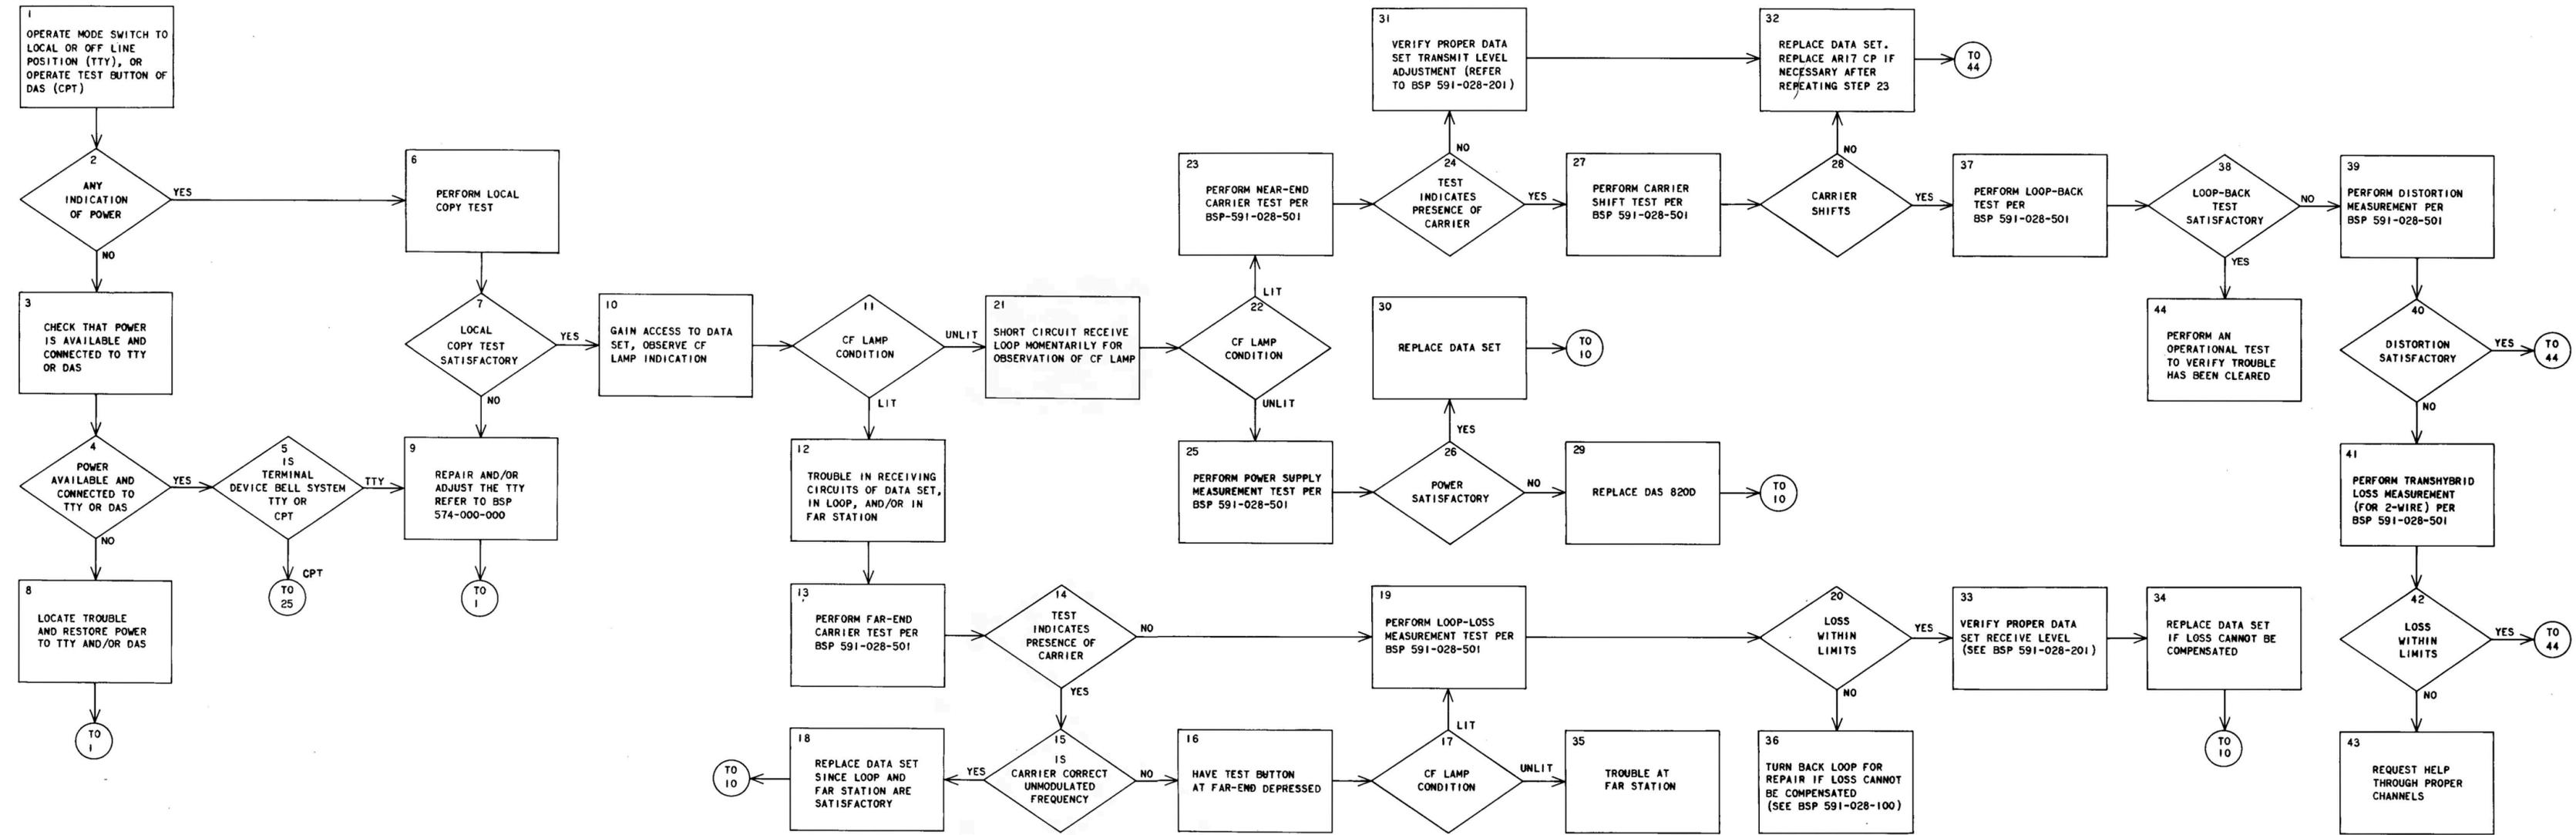

Fig. 4—Troubleshooting Procedure Block Diagram
3.01 A suggested sequence of maintenance is given in the flowchart in Fig. 4. The blocks of the flowchart are numbered to provide easy reference. Although the numbers are for reference only and do not indicate the sequence of operation, they correspond to the step numbers of the associated step-procedure.